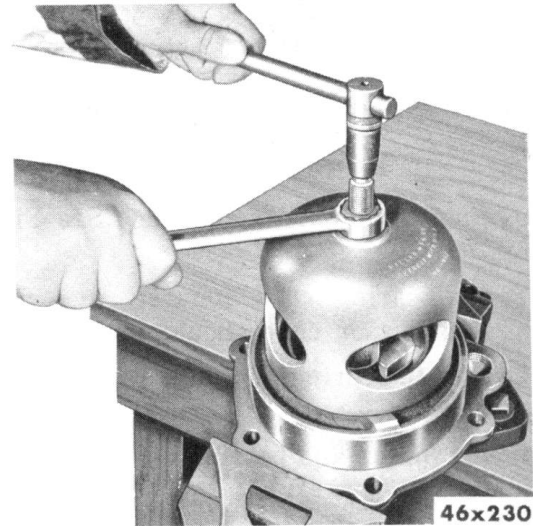

Fig. 122—Installing Differential Cross Shaft Cap Bearing Cup—Tool DD-966
- (1) Lubricate cross shaft bearings and cups with *light machine oil*.
- (2) If bearing cover (bevel gear side) has been removed, install new gasket under original shim pack. Tighten stud nuts to the correct torque.
- (3) Ease cross shaft assembly past differential bearing supports and position in bearing cup (Fig. 122).
- (4) Install new gasket under original shim pack and start cross shaft bearing cage into carrier housing.
- (5) Tap cage into position with soft mallet. Install lock washers and stud nuts and tighten to the correct torque.
- (6) Rotate assembly several revolutions before checking bearing pre-load in order to assure full bearing contact.